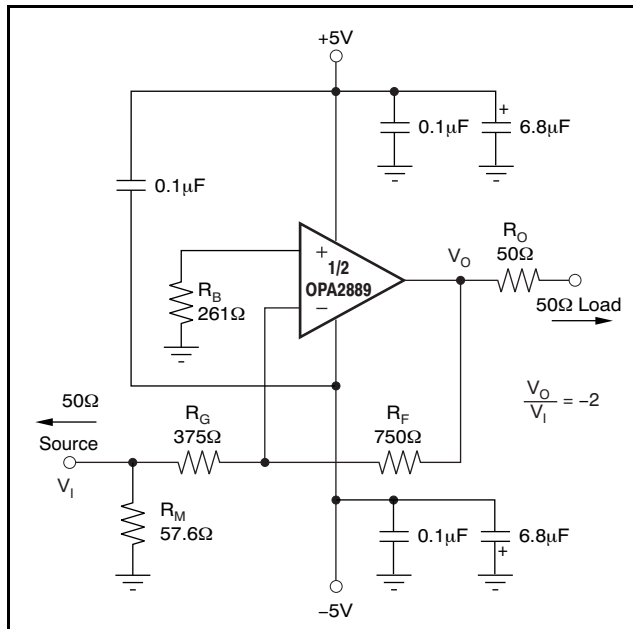

Figure 60. Gain of  $-2V/V$  Example Circuit
The OPA2889 is a general-purpose, wideband, voltage-feedback op amp; therefore, all of the familiar op amp application circuits are available to the designer. Inverting operation is one of the more common requirements and offers several performance benefits. See Figure 60 for a typical inverting configuration where the I/O impedances and signal gain from Figure 50 are retained in an inverting circuit configuration.
In the inverting configuration, three key design considerations must be noted. The first is that the gain resistor ( $R_G$ ) becomes part of the signal channel input impedance. If input impedance matching is desired (which is beneficial whenever the signal is coupled through a cable, twisted-pair, long PCB trace, or other transmission line conductor),  $R_G$  may be set equal to the required termination value and  $R_F$  adjusted to give the desired gain. This consideration is the simplest approach and results in optimum bandwidth and noise performance. However, at low inverting gains, the resultant feedback resistor value can present a significant load to the amplifier output. For an inverting gain of  $-2V/V$ , setting  $R_G$  to 50Ω for input matching eliminates the need for  $R_M$  but requires a 100Ω feedback resistor. This approach has the interesting advantage that the noise gain becomes equal to  $2V/V$  for a 50Ω source impedance—the same as the noninverting circuits considered in Figure 60. The amplifier output, however, now sees the 100Ω feedback resistor in parallel with the external load. In general, the feedback resistor should be limited to the 200Ω to 1.5kΩ range. In this case, it is preferable to increase both the  $R_F$  and  $R_G$  values (see Figure 60), and then achieve the input matching impedance with a third resistor ( $R_M$ ) to ground. The total input impedance becomes the parallel combination of  $R_G$  and  $R_M$ .
The second major consideration, touched on in the previous paragraph, is that the signal source impedance becomes part of the noise gain equation and influences the bandwidth. For the example in Figure 60, the  $R_M$  value combined in parallel with the external 50Ω source impedance yields an effective source driving impedance of  $50\Omega \parallel 57.6\Omega = 26.7\Omega$ . This impedance is added in series with  $R_G$  for calculating the noise gain (NG). The resulting NG is  $2.86V/V$  for Figure 60, as opposed to only  $2V/V$  if  $R_M$  could be eliminated as discussed above. Therefore, the bandwidth is slightly lower for the gain of  $-2V/V$  circuit of Figure 60 than for the gain of  $+2V/V$  circuit of Figure 50.
The third important consideration in inverting amplifier design is setting the bias current cancellation resistor on the noninverting input ( $R_B$ ). If this resistor is set equal to the total dc resistance looking out of the inverting node, the output dc error, as a result of the input bias currents, is reduced to  $(\text{Input Offset Current}) \times R_F$ . If the 50Ω source impedance is dc-coupled in Figure 60, the total resistance to ground on the inverting input is 402Ω.
previously recommend maximum value of 400Ω. Keeping both ( $R_F \parallel R_G$ ) and the noninverting input source impedance less than 400Ω satisfies both noise and frequency response flatness considerations. Because the resistor-induced noise is relatively negligible, additional capacitive decoupling across the bias current cancellation resistor ( $R_B$ ) for the inverting op amp configuration of Figure 60 is not required.